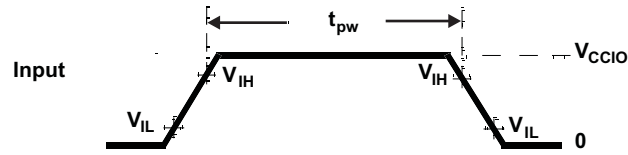

图 5-2. TTL-Level Inputs
(2) The timing shown in 图 5-2 is only valid for pin used in GIO mode.